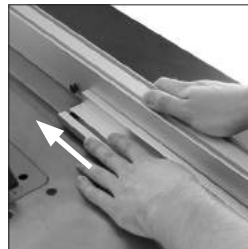

Fig. 19
- Slide the Rip Fence Face Plate onto the Rip Fence over the heads of the bolts (**Fig. 19**).